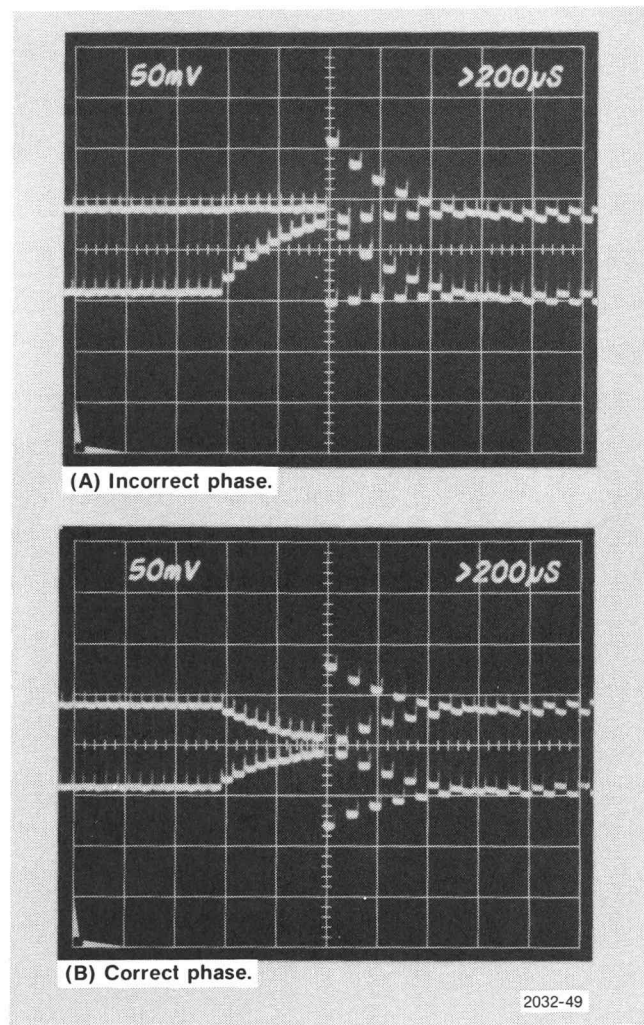

Fig. 5-38. 1421, 1422 — DC Balance adjustment.
a. Connect the 10X probe from the test oscilloscope to TP1544. (See Fig. 5-38.) Turn the video generator Bruch Sequence off.
b. ADJUST—R1561 (DC Bal) until the crossover point of two successive field sync pulses, time overlaid, is 0 V dc (see Fig. 5-38).